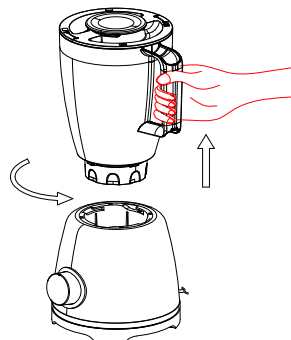

Fig 3
10. Unplug the appliance, remove the Blender jug from the main body by turning it anticlockwise until the Handle of the Jug is aligned with the "unlock" mark on the Base (Fig 3), and then remove the Lid and pour the food out.